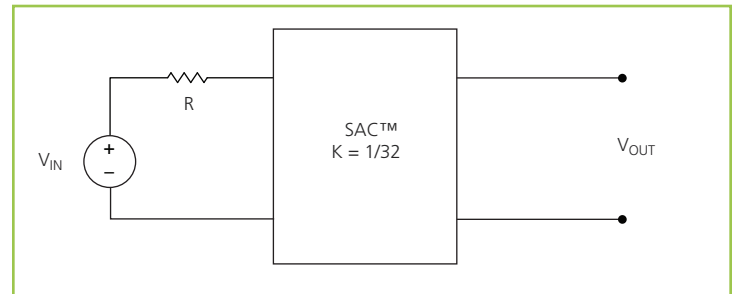

Figure 15 — K = 1/32 Sine Amplitude Converter™ with series input resistor
The use of DC voltage transformation provides additional interesting attributes. Assuming that R\_OUT = 0 Ω and I\_Q = 0 A, Eq. (3) now becomes Eq. (1) and is essentially load independent, resistor R is now placed in series with V\_IN as shown in Figure 15.
Assuming that  $R = 1 \Omega$ , the effective R as seen from the secondary side is 0.98 mΩ, with  $K = 1/32$  as shown in Figure 15.